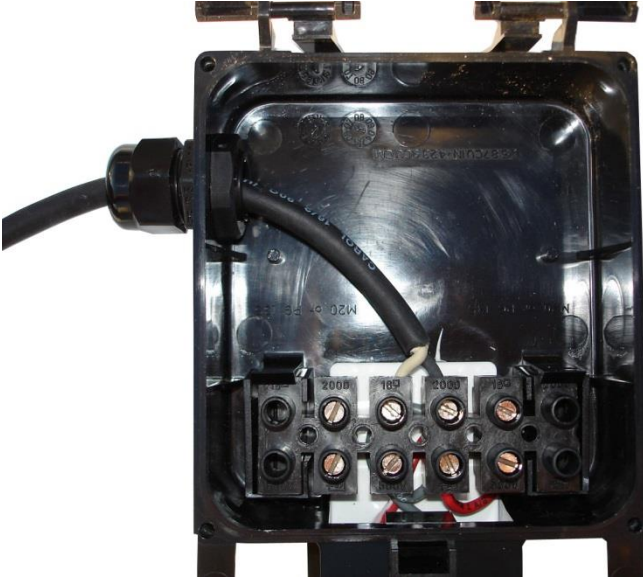

Figure 34: Secure Terminal Block and Tighten Strain Relief
4. With the wires tightened, secure the terminal block in its retaining clips, and tighten the strain relief connections to the power cable as shown in Figure 34.